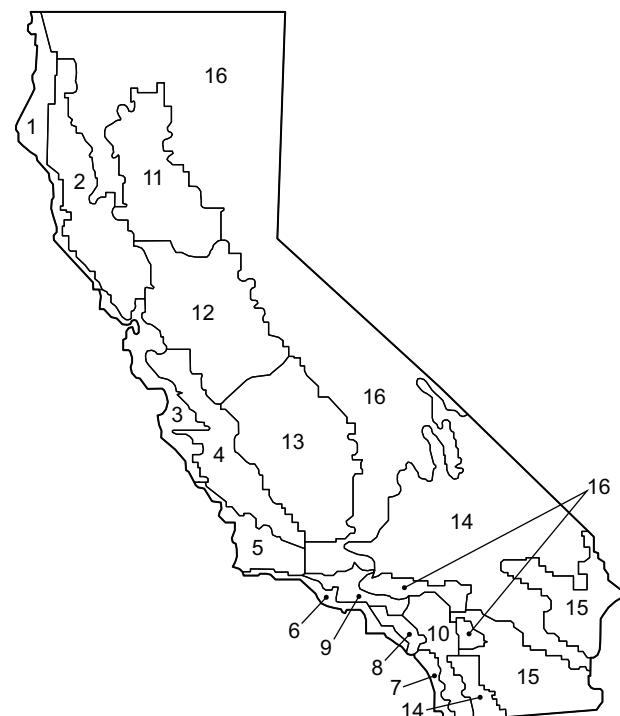

Fig. 89 — California Title 24 Zones
- See Fig. 89 for map of California Title 24 zones.